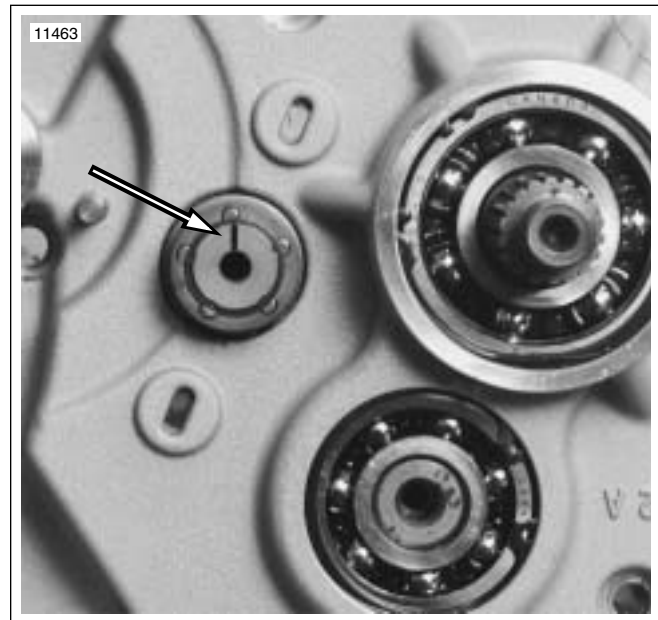

Figure 6-48. Shifter Drum and Mainshaft (Transmission in Neutral)
10. See Figure 6-48. With transmission still in neutral, scribe a line on the end of the shifter drum at the 12 o'clock position for later reference.